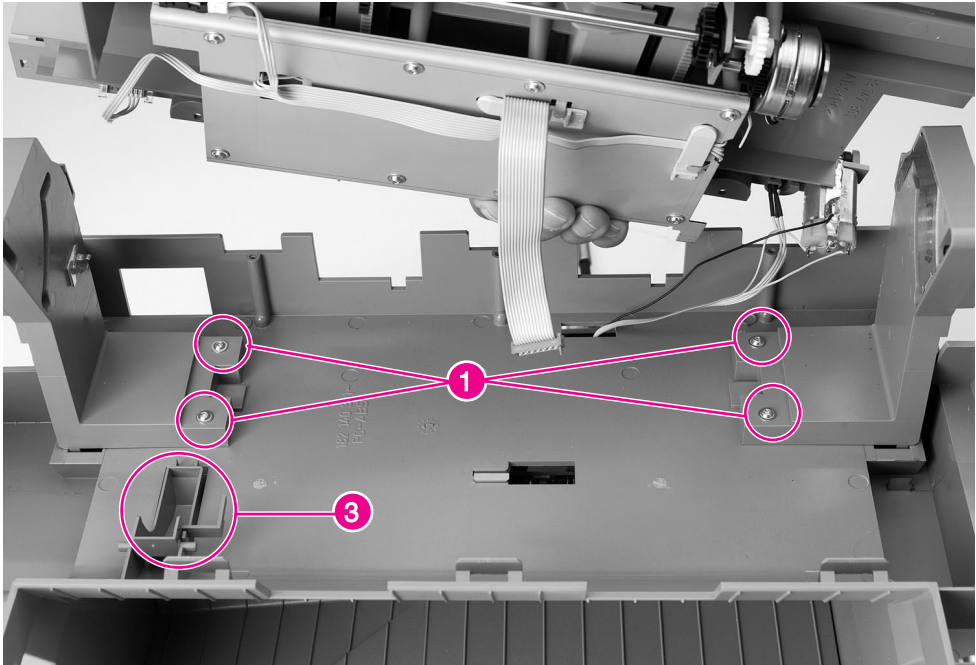

Figure 6-189 Hinges
Make sure that the actuator is oriented as shown in its proper place before replacing the Stapler Bed Assembly (see figure 6-189 on page 377, callout 3).
- 5 Remove 2 screws joining each hinge to the housing (see figure 6-189, callout 1).